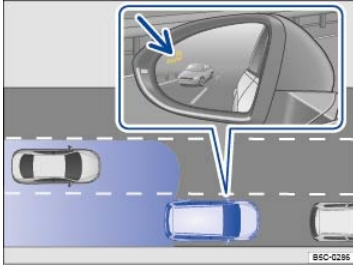
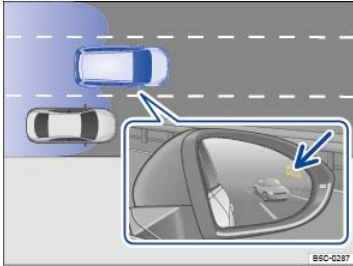

Fig. 136 Driving situation when passing with traffic behind your vehicle. Arrow: Blind Spot Monitor indicator light in the driver side mirror.
Fig. 137 Driving situation when passing and merging into the lane. Arrow: Blind Spot Monitor indicator light in the passenger side mirror.
The following situations result in a signal in the outside mirror ⇒ Fig. 136 (arrow) or ⇒ Fig. 137 (arrow):
- If your vehicle is being passed by another vehicle ⇒ Fig. 136.
- When passing another vehicle ⇒ Fig. 137, and the difference in speed between the two vehicles is no more than about 6 mph (10 km/h). There is no signal if the passing speed is clearly faster.